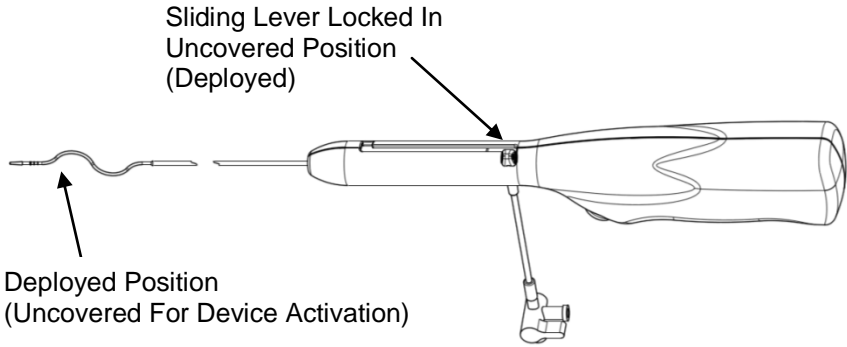

Figure 4
11. In a graft, advance the flexible tip up to the venous anastomosis. **Warning: Do not advance it beyond the anastomosis.** In a fistula, advance the flexible tip up to the central most extent of the clot. Uncover the sinuous wire by unlocking, fully retracting the sliding lever and rotating the sliding lever until an audible “click” is heard (refer to Figure 4). Confirm device positioning within the fistula or graft via fluoroscopy. Press the ON/OFF switch to activate rotation.